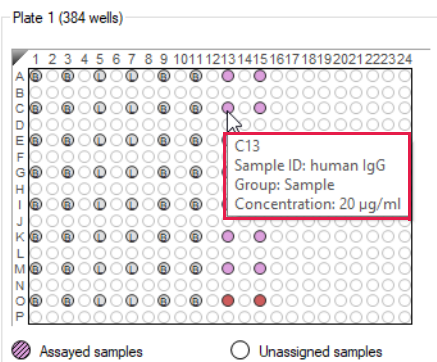

Figure 10-37: Tool Tip of Well Information
2. In the **Sample Plate** or **Reagent Plate Map**, double-click the column that is associated with the selected step type. For information about sample or reagent plate wells, mouse over a well to view a tool tip (see Figure 10-37).